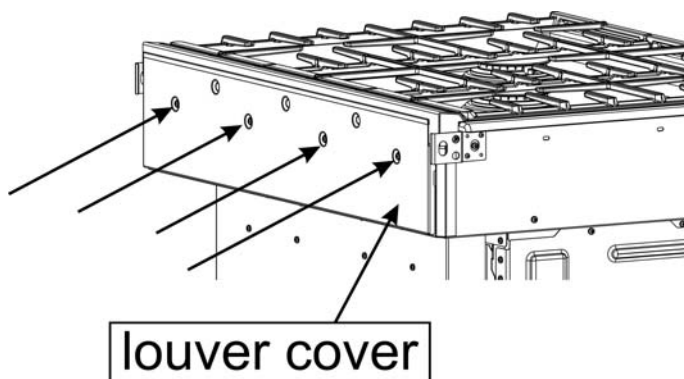

Figure 1: Rear louver cover screw locations
Procedure for a Dual Fuel Slide-In-Range with louver cover (see Figure 1)
2. Slide the range out enough to access the rear louver cover mounting screws. See Figure 1: Rear louver cover screw locations.
3. If your range does not have a louver cover (see Figure 1), go to the procedure starting on page 5.
4. Remove the four screws holding the rear louver cover (see Figure 1). Save these screws to reattach the louver cover.
14. Place the rear louver cover into its slots and secure with four screws (see Figures 1 and 2).